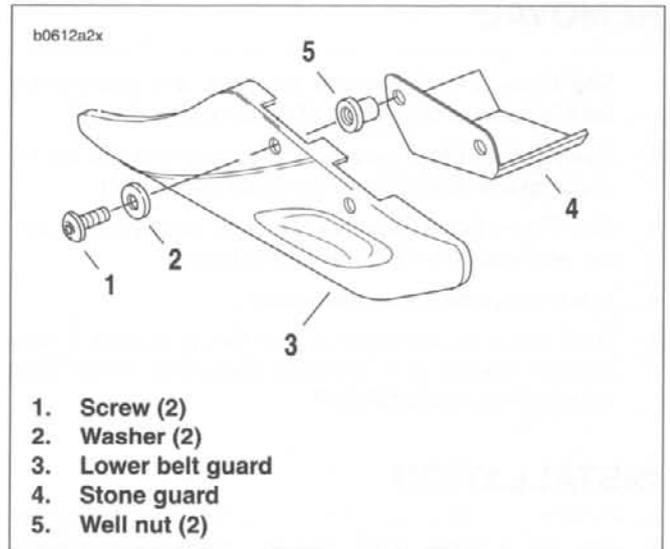

Figure 2-154. Stone Guard Installation
1. See Figure 2-154. Remove two screws (1) and washers (2) securing lower belt guard (3) to swingarm.
2. Remove lower belt guard (3), stone guard (4) and well nuts (5).